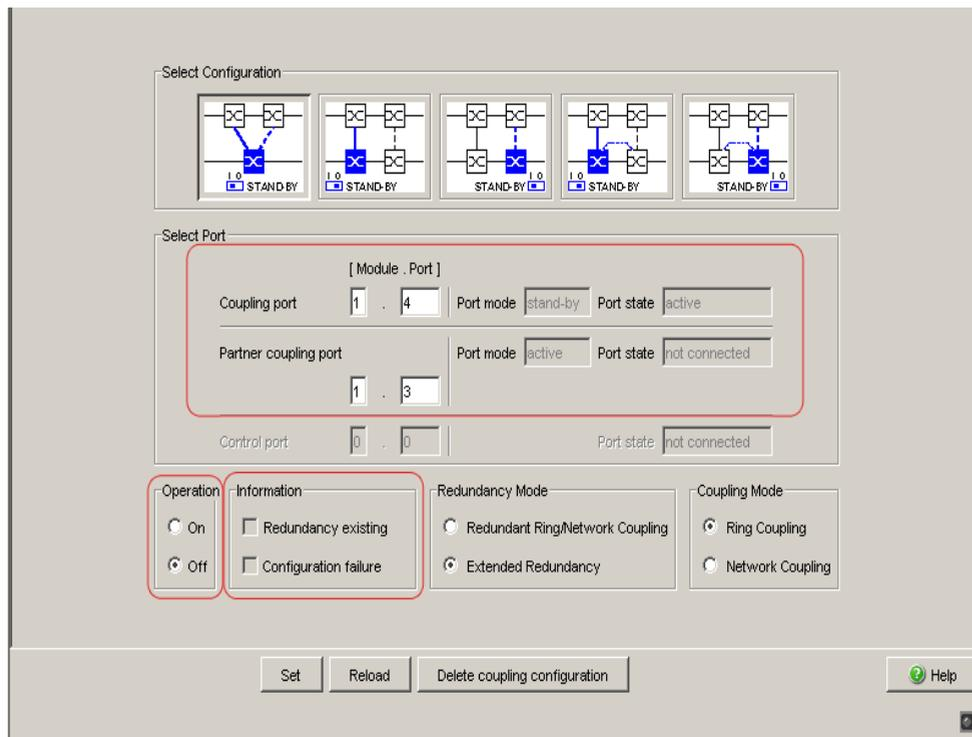

Figure 22: Selecting the port and enabling/disabling operation
- Select the partner coupling port (see fig. 22), (see table 11).
The displays in the “Select port” frame mean (see fig. 22):
The displays in the “Information” frame mean (see fig. 22):